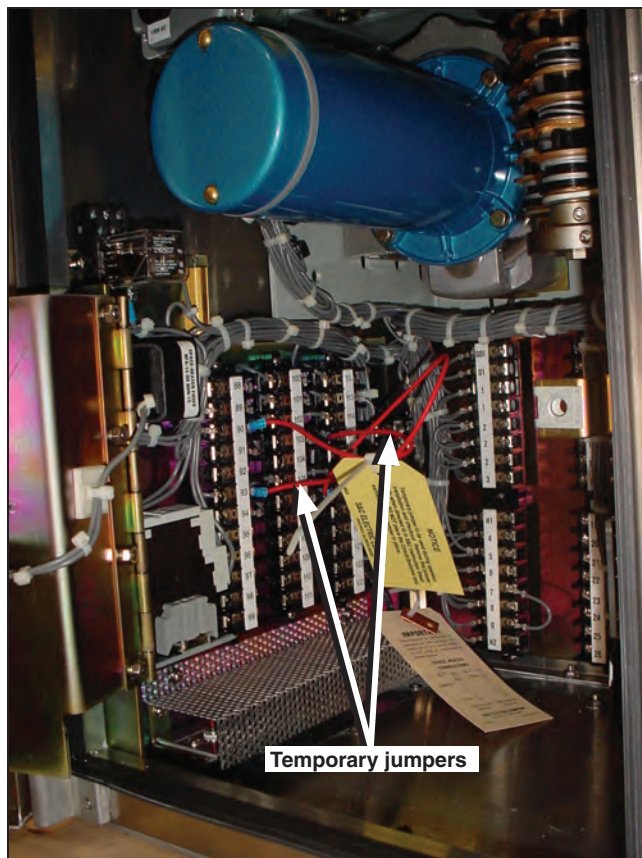

Figure 75. Remove temporary jumpers and wire the interrupters to the appropriate terminals in the Mark VI CS-1A Switch Operator per the wiring diagram.
- (b) With control power disconnected, remove the temporary jumpers between the interrupter contacts. Discard the jumpers. See Figure 75.